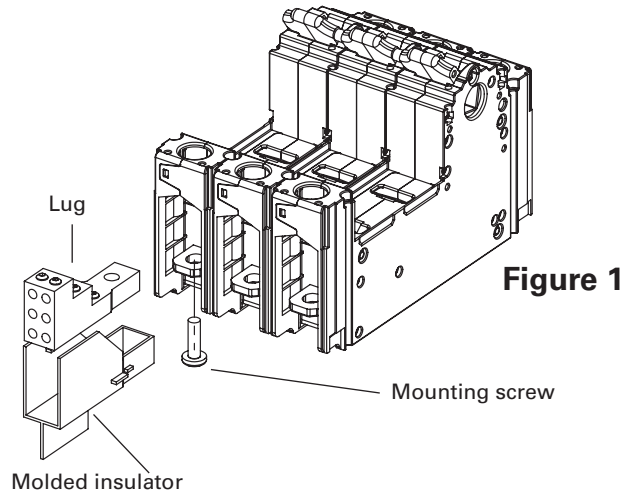

Figure 1
If CCP or CUBEFuse holder is installed in equipment, it must be removed from equipment for installing this kit. This kit is intended for use only on the loadside only. See Figure 1.
2. Place lug into molded insulator as shown in Figure 1.
3. Place molded insulator and lug on top the terminal as shown in Figure 1.
4. Install provided mounting screw as shown in Figure 1. Torque mounting screw to 10.8 N•m (95.6 lb-in).